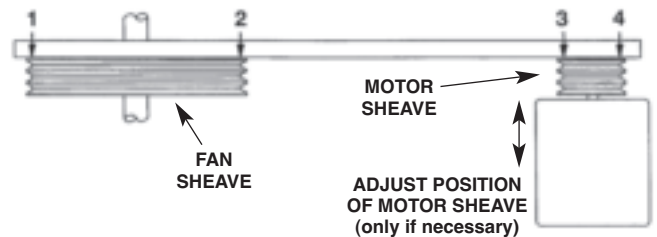

Figure 22 – Sheave Alignment Check
8. As a final check, lay a straight edge from sheave to sheave (Figure 22). There should be 4 point contact. Adjust the position of the motor sheave if necessary.